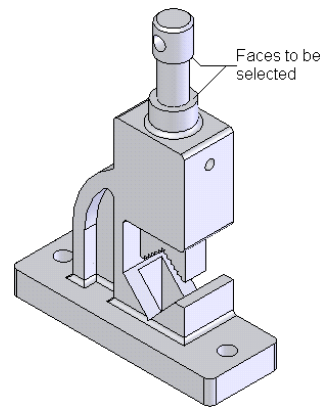

Figure 10-79 Faces to be selected
17. Next, select the faces as shown in Figure 10-79.